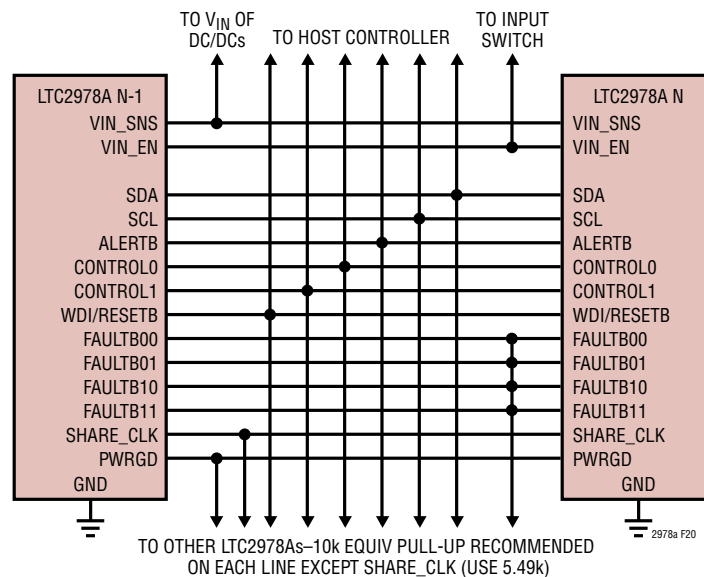
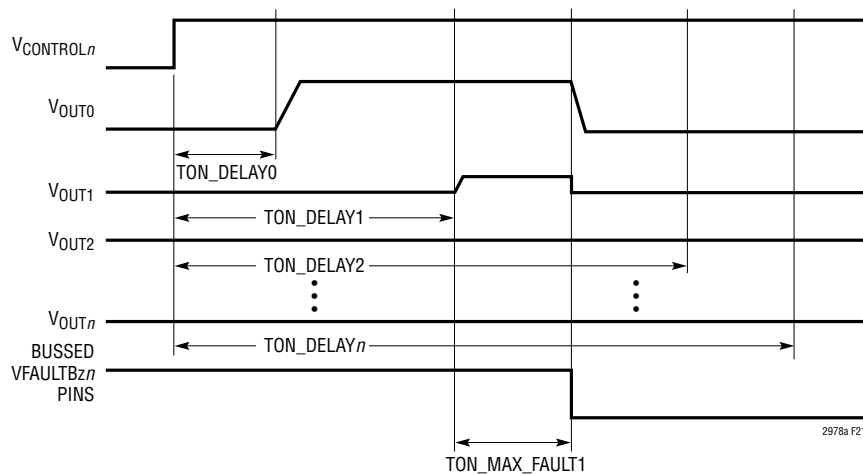

Figure 20. Typical Connections Between Multiple LTC2978As
Figure 21. Aborted On Sequence Due to Channel 1 Short
- The FAULTBzn lines can be connected together to create fault dependencies. Figure 20 shows a configuration where a fault on any FAULTBzn will pull all others low. This is useful for arrays where it is desired to abort a start-up sequence in the event any channel does not come up (see Figure 21).
- Figure 20 shows how to interconnect the pins in a typical multi-LTC2978A array.
- PWRGD reflects the status of the outputs that are mapped to it by the MFR_PWRGD_EN command. Figure 20 shows all the PWRGD pins connected together, but any combination may be used. Note that the latency of the PWRGD pin response may be in the range of 30ms to 185ms depending on ADC MUX settings. See Electrical Characteristics Table Note 4.